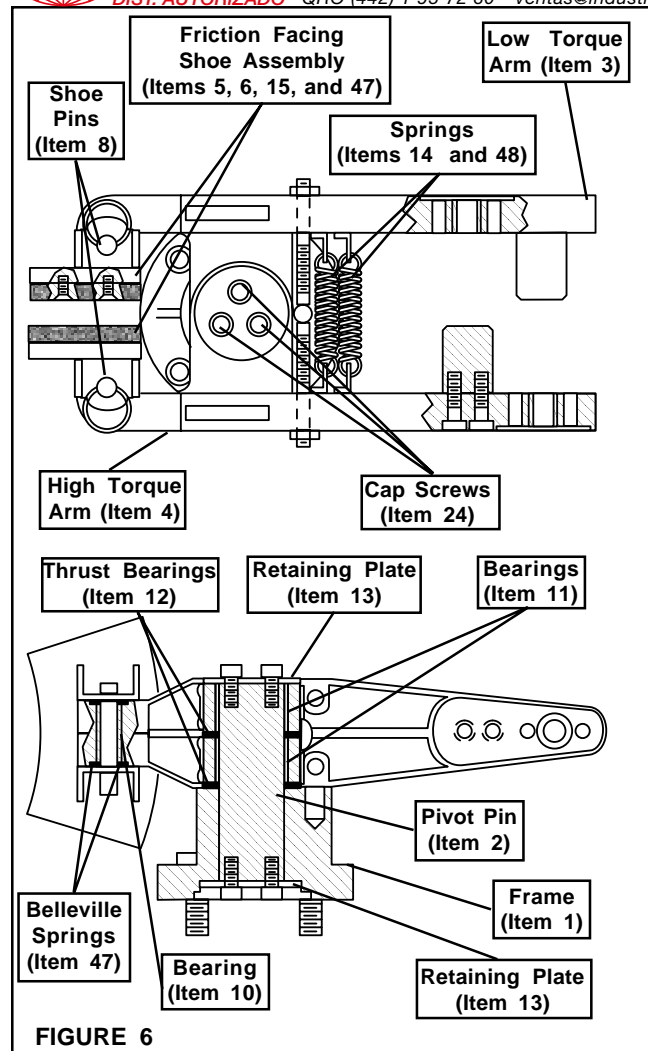

FIGURE 6
Maximum operating pressure is 100 psi [6.9 bar] (See Figure 6).
1. Remove the Springs (Items 14 and 48) (See Figure 6).
2. Remove the Shoe Pins (Item 8), and Friction Facing Shoe Assembly (Items 5, 6, 15, and 47) (See Figure 6).
3. Remove the three Cap Screws (Item 24) (See Figure 6).
4. Remove the top Retaining Plate (Item 13) (See Figure 6).
5. Remove the Low Torque Arm (Item 3), one old Thrust Bearing (Item 12), the High Torque Arm (Item 4), and the second old Thrust Bearing (Item 12) from the Pivot Pin (Item 2) (See Figure 6).
7. Press new Bearings (Item 10 and 11) into the Arms (Items 3 and 4) (See Figure 6).
8. Reinstall the first new Thrust Bearing (Item 12), Low Torque Arm (Item 3), the second new Thrust Bearing (Item 12), and the High Torque Arm (Item 4) onto the Pivot Pin (Item 2) (See Figure 6).
9. Reinstall the top Retaining Plate (Item 13) (See Figure 6).
10. Reinstall the three Cap Screws (Item 24) (See Figure 6).
12. Reinstall the Friction Facing Shoe Assembly (Items 5, 6, 15, and 47) and the Shoe Pins (Item 8) (See Figure 6).
13. Reinstall the Springs (Items 14 and 48) (See Figure 6).